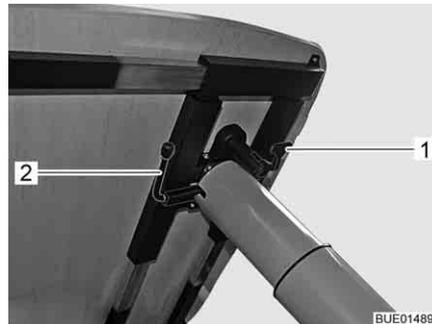

Fig. 98 Adjustment of lift-off table
- Fold lever (Fig. 98,1) downward.
- Swivel the lever (Fig. 98,2) underneath the table top by 180° in a clockwise direction. The lifting mechanism in the table leg is unlocked.
- Swivel the lever (Fig. 98,2) underneath the table top by 180° in a clockwise direction. The table top moves upwards to the limit stop.